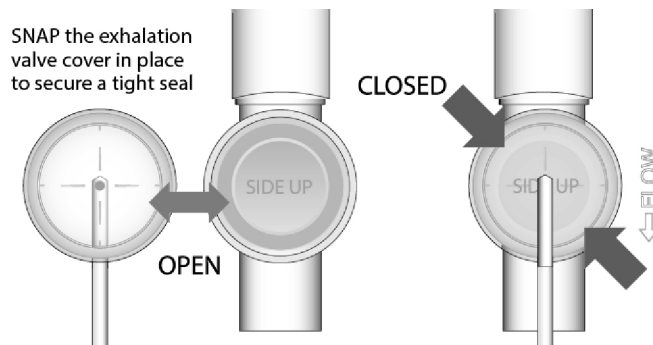

Figure D-3 Closing Exhalation Valve Cover
3. Carefully re-seat the silicone diaphragm in the exhalation valve seat. Tap around the silicone diaphragm lightly to ensure that kinks do not develop when closing the exhalation valve. See Figure D-3.